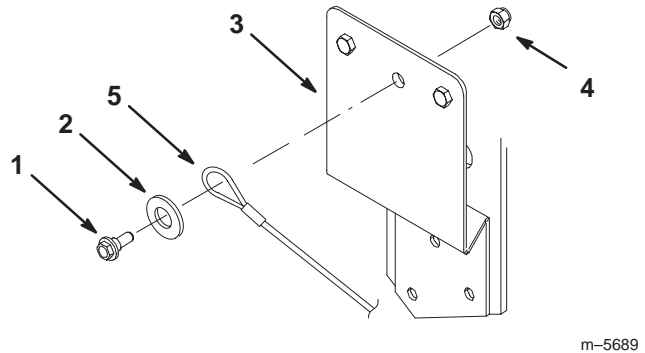

Figure 4
8. Install the shoulder bolt, washer, lanyard and locknut (5/16 in.) to the pulley guard (Fig. 4).
Note: When the lanyard is attached to the machine, it must not be able to be removed (Fig. 4).